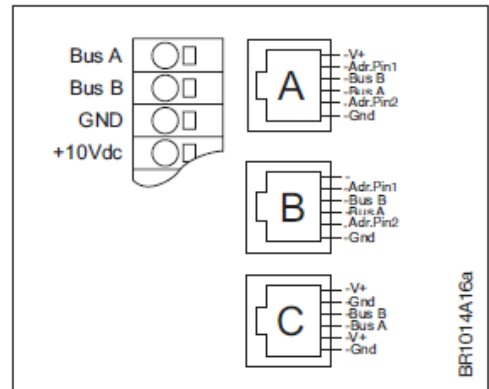

Fig. 3-13.1
- On the terminal strip with spring terminals for control signals (A/D I/O), the terminals for connecting Modbus are marked "Bus A", "Bus B" and "GND". See fig. 3-13.1.